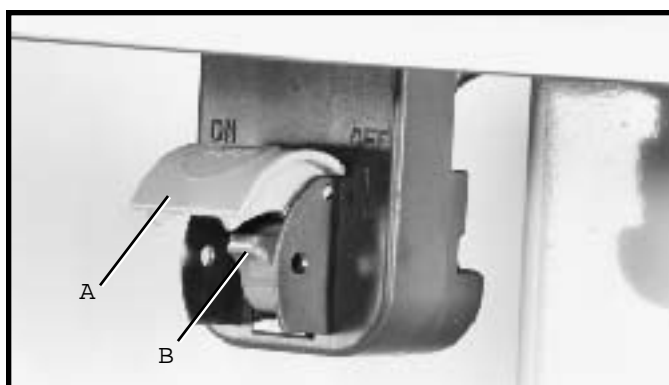

Fig. 76
1. The on/off switch is located underneath the switch shield (A) Fig. 76. To turn the saw ON, move switch trigger (B) to the up position.